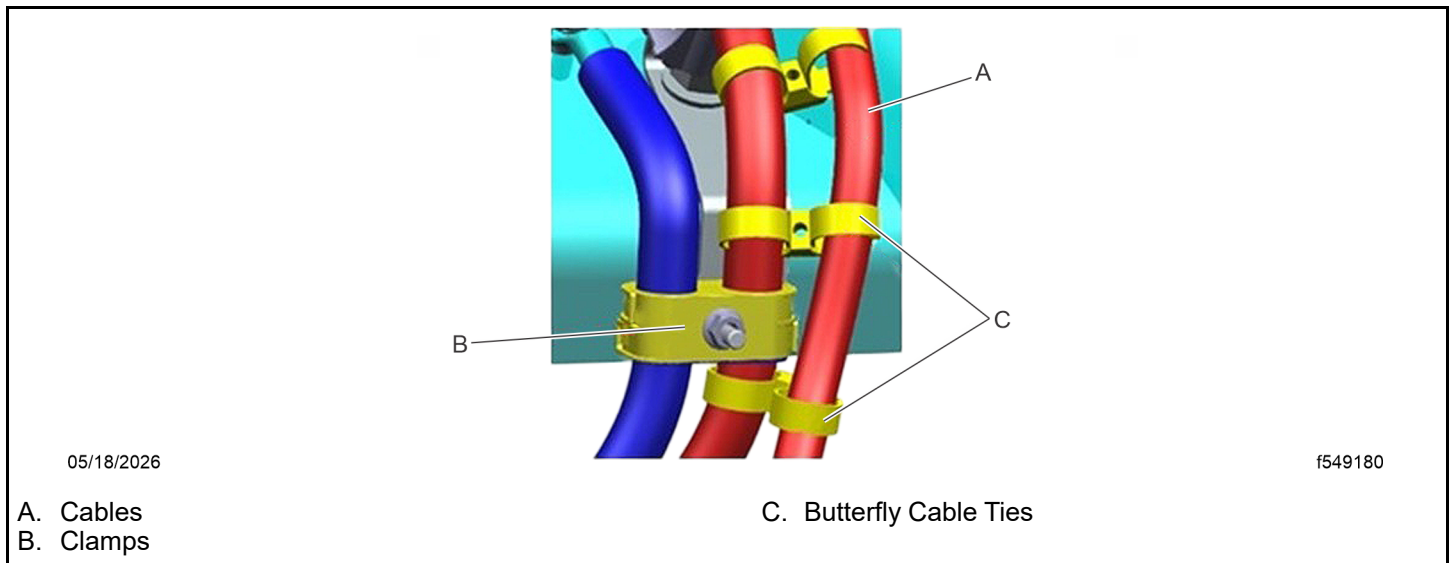

Fig 56, Butterfly Cable Ties Around the Cable Clamps
35. Install the upper and lower cable clamps on the isolator frame bracket. To prevent cables (A) from rubbing, secure any cables routed on the outside cable clamps (B) using butterfly cable ties (C) (TYCDCT110HIR). See Fig. Fig. 56.